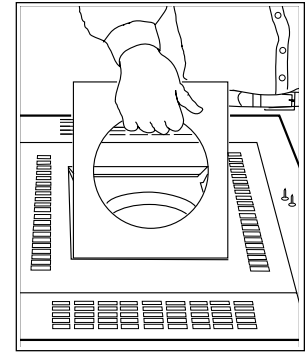

Figure 3. Adapter Plate.
- b. Remove the two screws attaching the adapter plate to the top assembly and lift it out (see Figure 3).